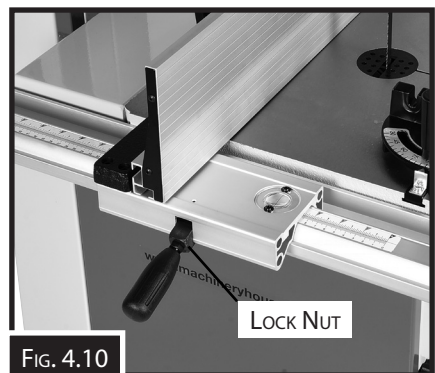

FIG. 4.10
3. Install an M8 hex nut on the fence handle, then thread the handle into the fence assembly, and tighten the hex nut against the fence pivot block to secure the handle. (Fig. 4.10)